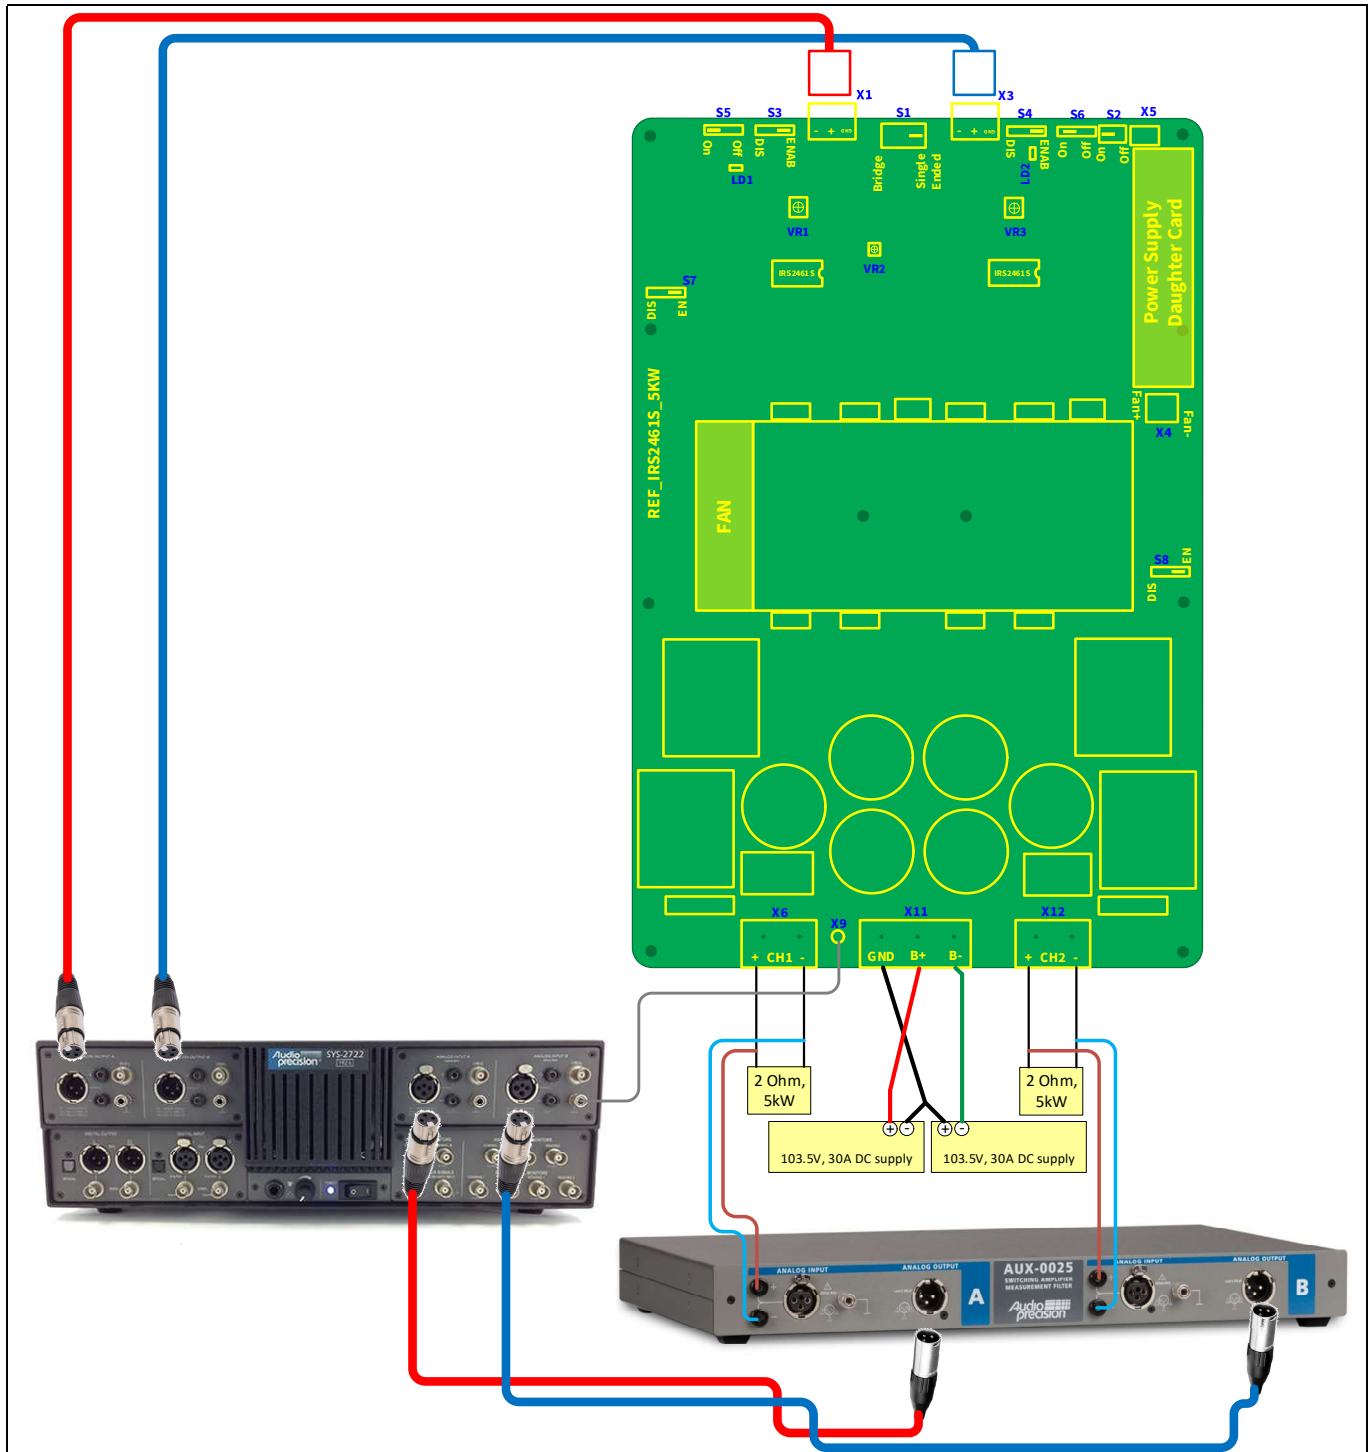
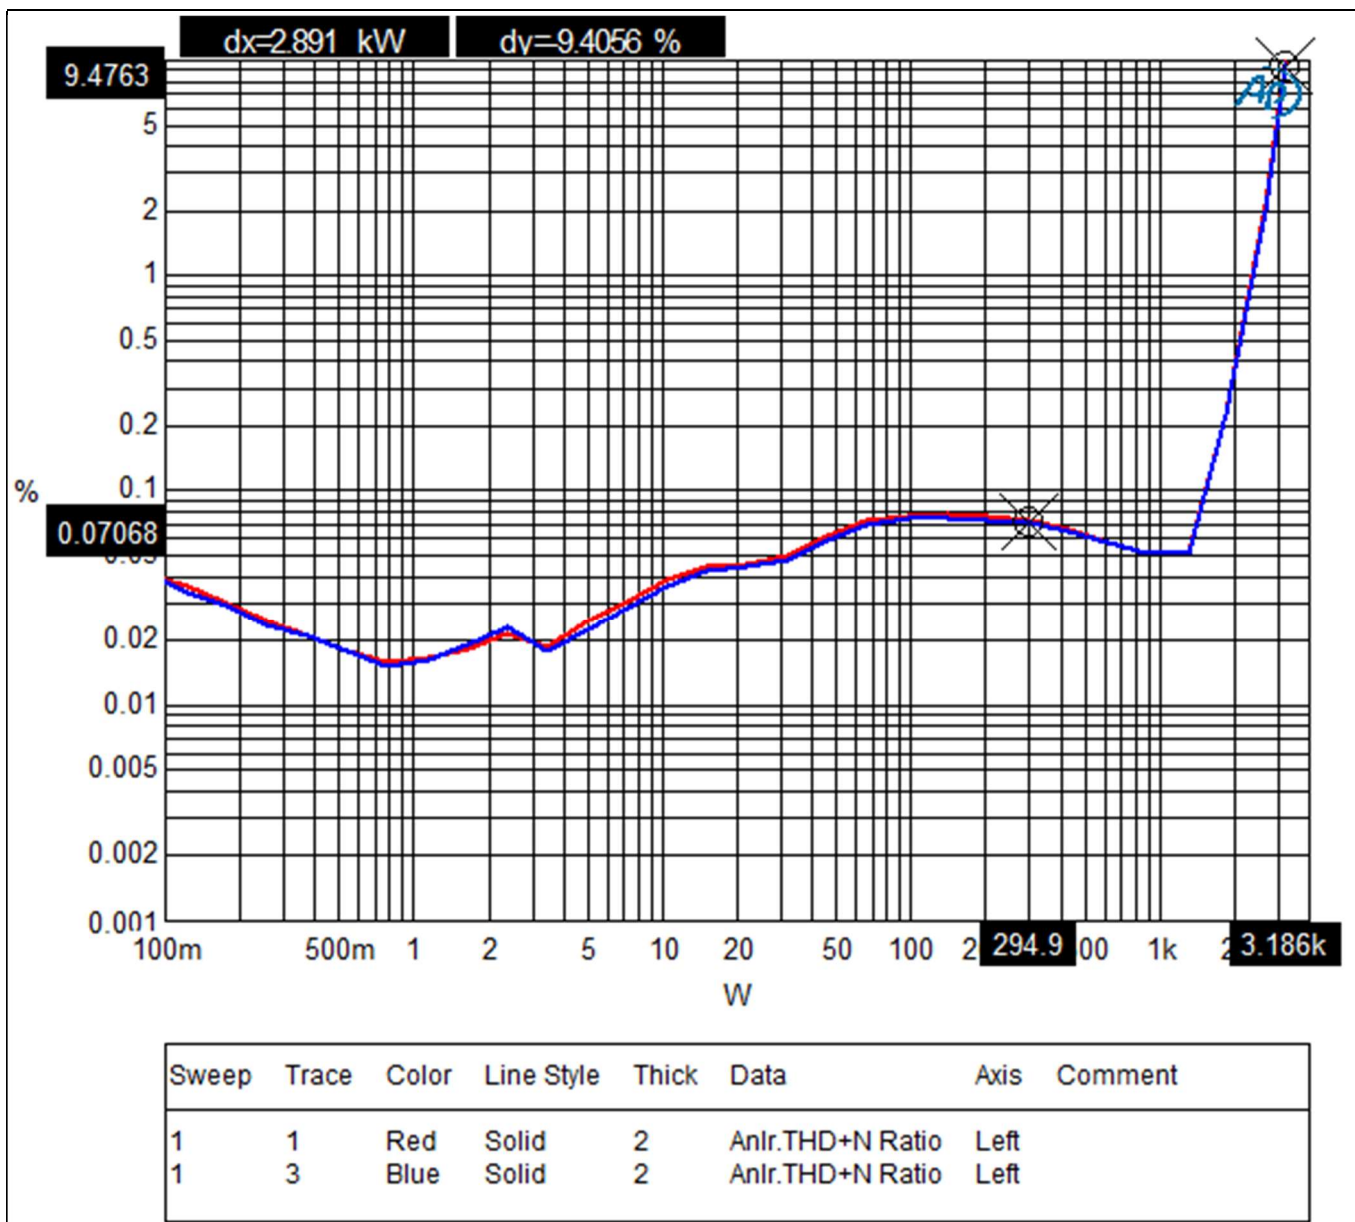

Figure 5 Audio Precision (AP) connection
Figure 6 THD+N vs Power sweep for CH1 and CH2 with clock injection
REF_IRS2461S_5KW and AP shall be connected according to the Figure 5.
1. Connect 2Ω – 5000W dummy loads to the output connectors (X6, X12 as shown in Figure 5)
2. Connect the Audio Precision (AP) analyzer signal generator output to X1 and X3. Use Balanced connection with $Z_{out} \leq 20\Omega$.
5. Set AP's analog analyzer to 20kHz AES17 filter. It is also recommended to introduce the AUX-0025 filter in the setup only at this stage as shown in Figure 5. If the AUX-0025 filter is added before this step, the audio analyzer will not be able to accurately detect the self-oscillation frequency.
10. Run AP THD+N vs Power test as shown in Figure 5.
7. Set AP's analog analyzer to 20 kHz AES17 filter. It is also recommended to introduce the AUX-0025 filter in the setup only at this stage as shown in Figure 5. If the AUX-0025 filter is added before this step, the audio analyzer will not be able to accurately detect the self-oscillation frequency.
10. Run AP THD+N vs Power test as shown in Figure 5. The obtained results should look similar to Figure 6.